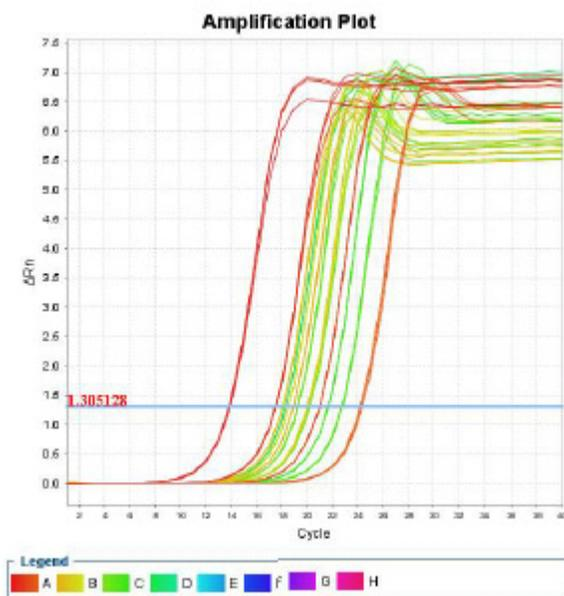
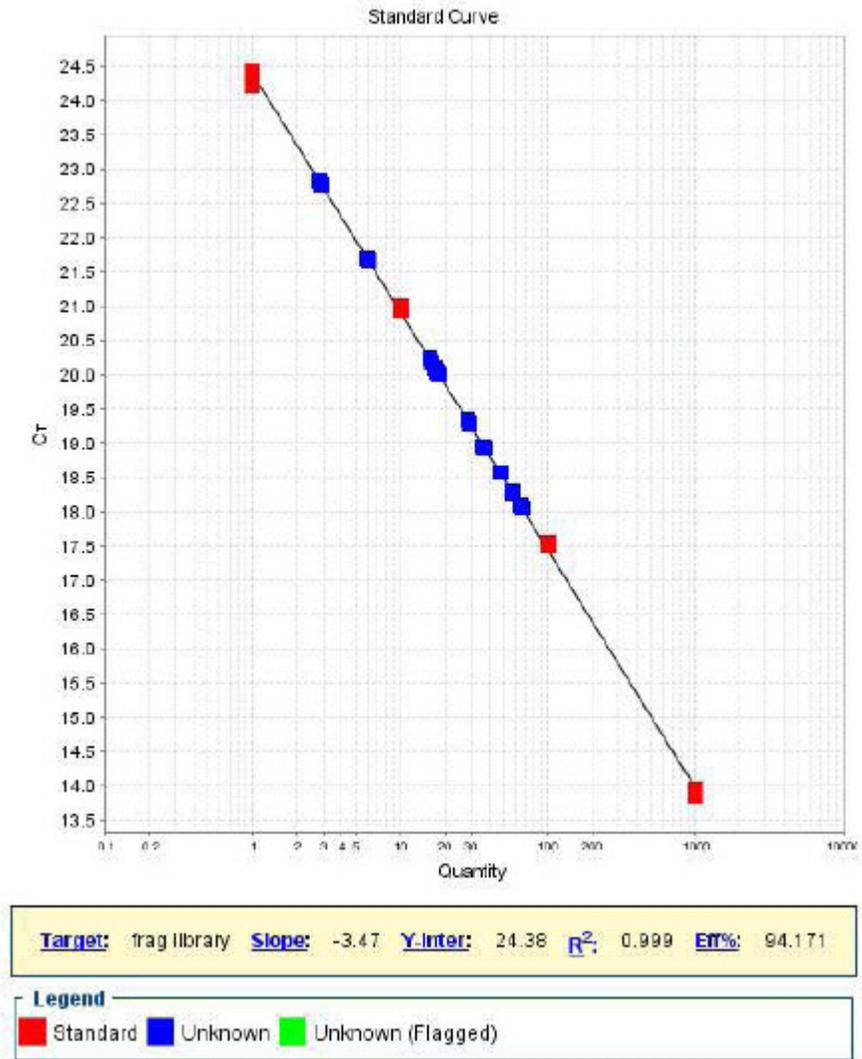

Figure 27 Sample amplification plot.
Figure 28 Sample standard curve.
1. After the qPCR run is finished, click **Analysis**. Select the wells in **View Plate Layout** by *click+drag*. Click **Amplification Plot** or **Standard Curve** to view the analysis results (for examples, see Figure 27 and Figure 28 on page 185).